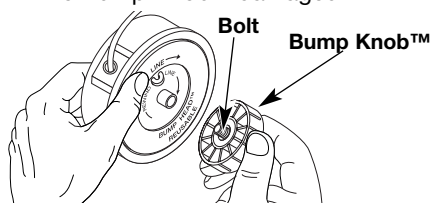

Fig. 12
1. Hold the outer spool with one hand and unscrew the Bump Knob™ **counterclockwise** (Fig. 12). Inspect the bolt inside the Bump Knob to make sure it moves freely. Replace the Bump Knob if damaged.
1. Hold the outer spool with one hand and unscrew the bump knob counterclockwise (Fig. 12). Inspect the bolt inside the bump knob to make sure it moves freely. Replace the bump knob if damaged.